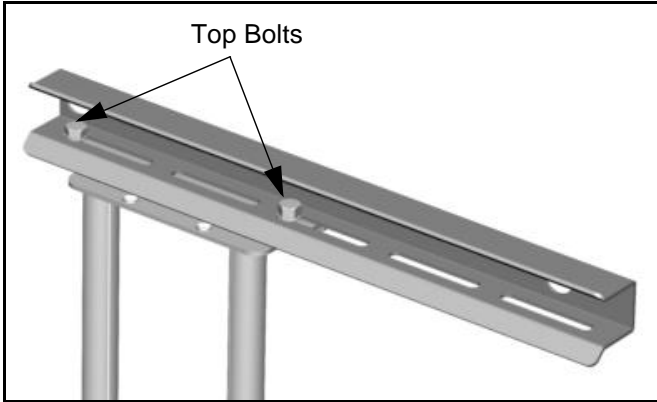

Figure 14
2. Remove four bolts (two on the top and two on the bottom) securing the swing arm assembly to the top and bottom mounting brackets (See figure 14).
- For Left of Center, see Figure 14.
5. Install four bolts (two on the top and two on the bottom) to secure the swing arm assembly to the top and bottom mounting brackets (See figure 14).